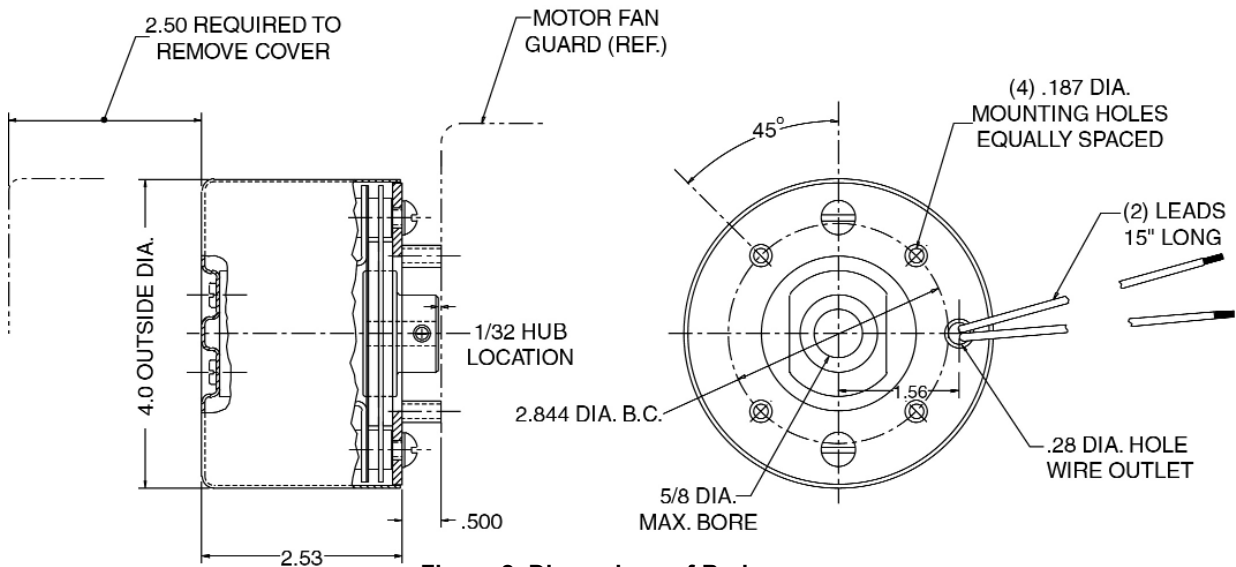

Figure 2. Dimensions of Brake
INSTALLATION (See Figures 2, 3, 4 & 5)
1. Position hub (8) on motor shaft $1/32$ " from mounting surface of motor fan guard and securely tighten both set screws. Bore in hub (See Figure 2) is designed to give minimum clearance between hub and motor shaft. If hub is tight on shaft, use emery cloth on motor shaft, so that hub slides on freely. Loctite or similar adhesive may be used on motor shaft extension.
2. Remove cover screws (17), lockwashers (18) and cover (16).
3. Place brake on motor, guiding rotating discs (9) on hub. Mount brake so that grommet (7) is on the wire connection box side of motor. Depress operator assembly lever (19) and align discs if needed. Attach brake securely to motor mounting surface using machine screws (5), lock washer (4) and spacers (2). Use of needlenose pliers to guide and hold spacer may be helpful. Brake bracket (3) is to be concentric with motor shaft within $.010$ T.I.R. and square within $.010$.
6. Bring solenoid lead wires thru grommet (7) to make the electrical connection. Replace cover and cover screws.